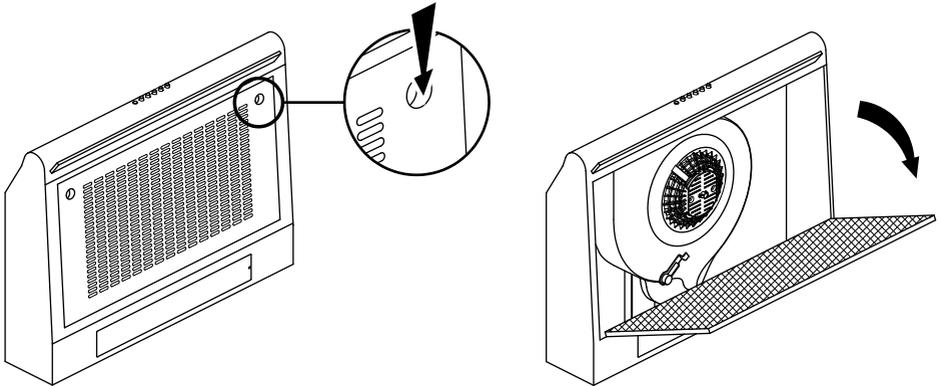

Fig.5
② Wall mounting
- Remove the filter – pull the relative catch and tilt the filter downwards until it disengages from the supports (see Fig.5).
② Mount the rangehood
- Remove the filter – pull the relative catch and tilt the filter downwards until it disengages from the supports (refer to Fig.5 on page 10).